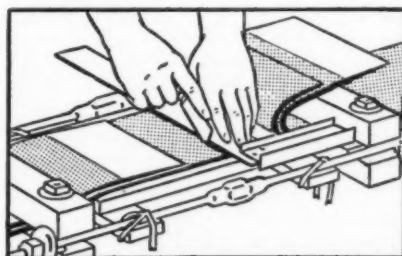

Figure 19
6. Shorten male end and prepare to fit (Fig. 19).